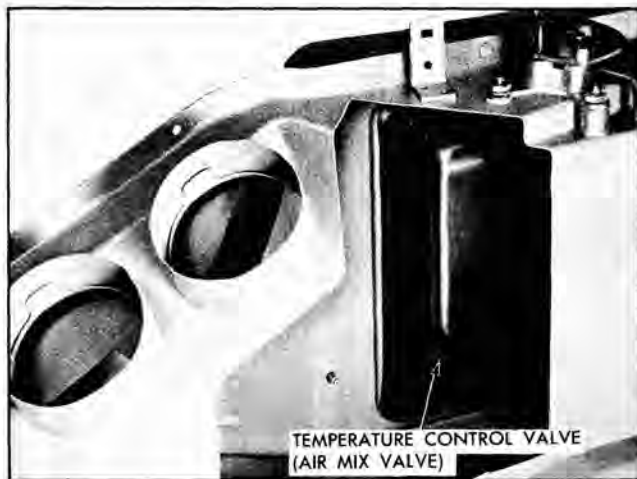

Fig. 1-20 Temperature Control Valve Crush to Heater Core
6. Shine a light through the defroster outlets and using a mirror in the heater outlet nozzle opening move bracket and cam assembly (with pin installed) so the rubber edge of valve *just contacts* the heater core flange. Continue to move this assembly in the same direction slightly to place a slight "crush" (approx.  $\frac{3}{32}$ ") on the rubber portion of the valve (Fig. 1-20).